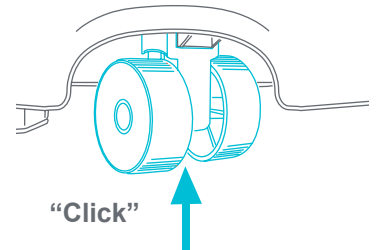

Fig. 8b
- Push the wheel upward until it clicks into the base (Fig. 8b). Repeat for the other side.
⚠️WARNING: For 4 months up to 30lb. use **ONLY**. **ALWAYS** make sure to lock the seat before using the walker mode. Refer to the corresponding Fig. 8b.